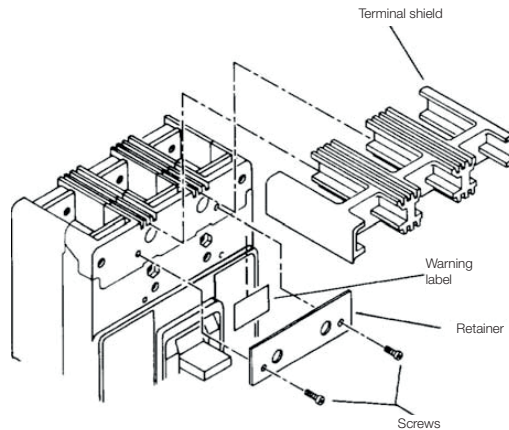

Figure 5: installation of terminal shields and warning label
10. When step-type terminals (Cat. No. LT3D UBW600 or LT3D UBW400) are used, terminal shields (supplied with terminals) must be installed on the circuit breaker (Figure 5) and secured using retainer and screws included with the terminal shield kit. Warning label supplied with the kit must be attached to the circuit breaker cover.